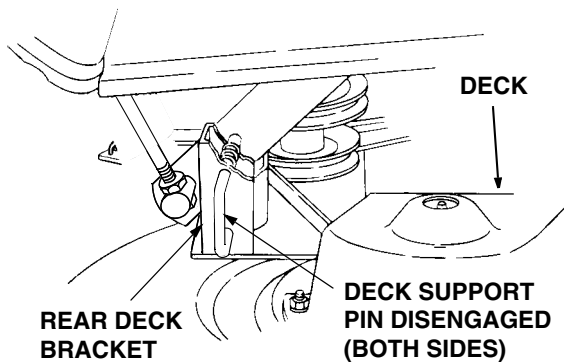

Figure 40
6. Pull the deck support pins outward, turn downward and release so both spring-loaded pins are held in the disengaged position against the outer surface of the deck brackets (See Figure 40).